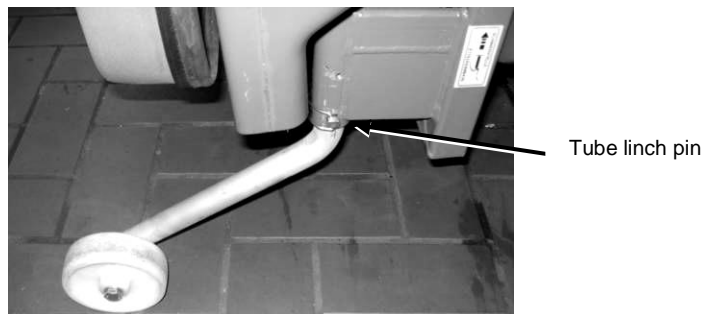

Fig. 37: Support wheels
2. Arrest the support wheels with the tube pinch pin (see Fig. 37).